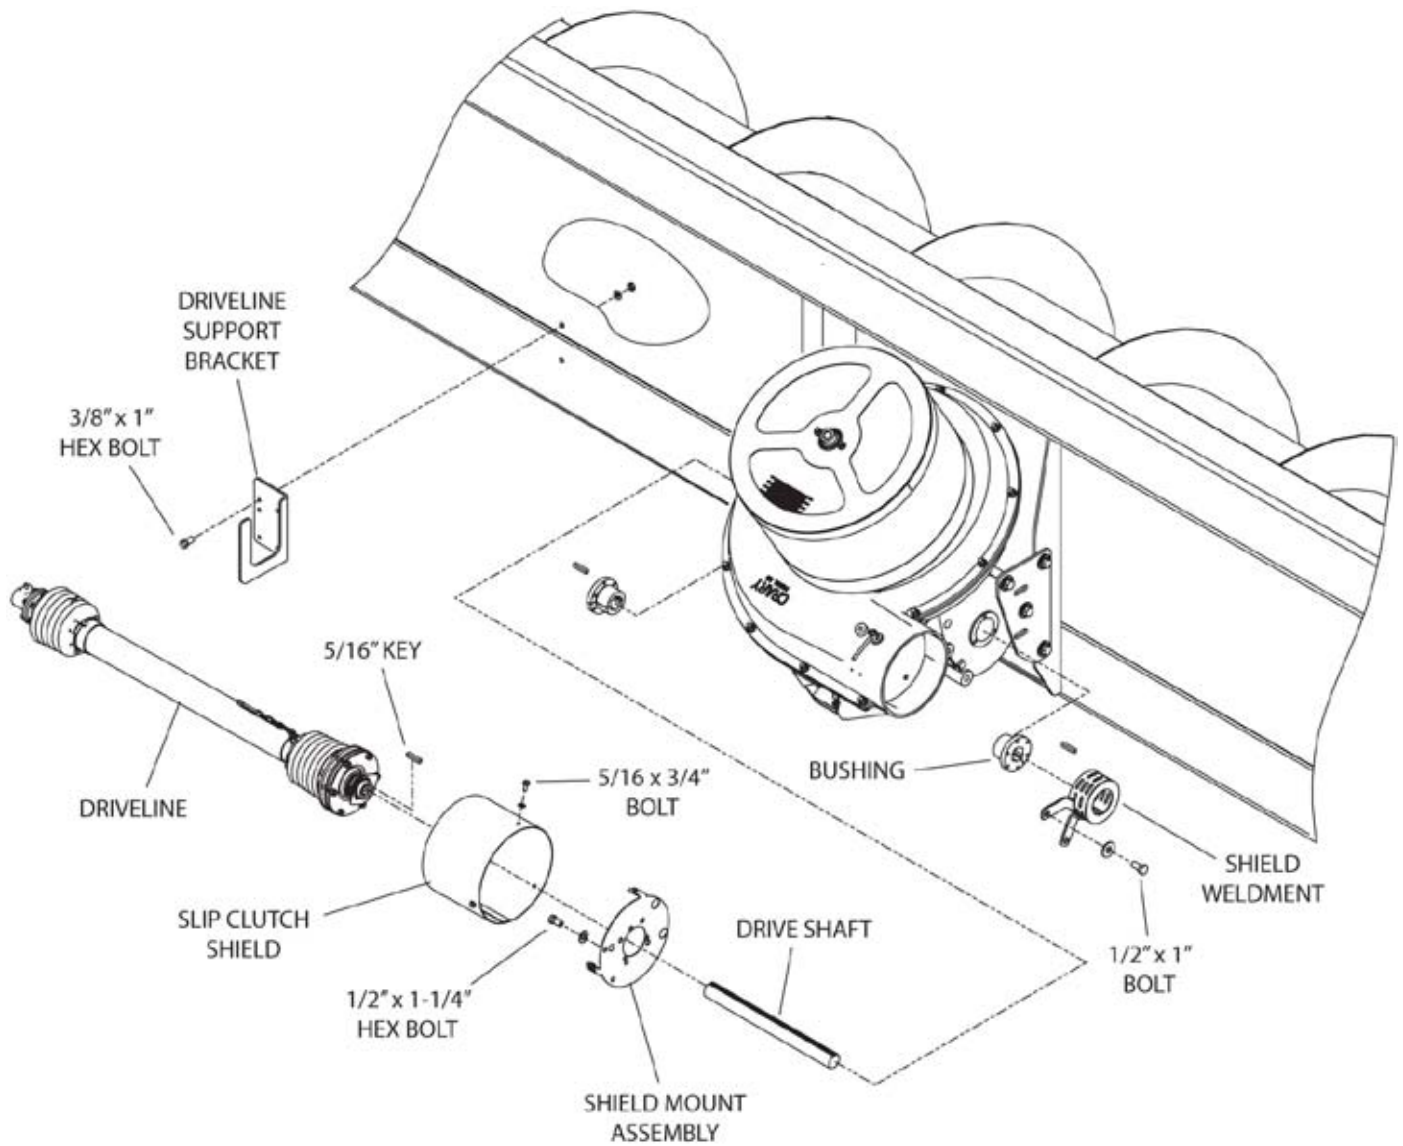

Figure 7, RH drive (18-24 ft. headers)
1. Install a bushing to each side of the gearbox (Figure 7). Make sure the bolts are inserted in the non-threaded bushing holes. The threaded set of holes is used to remove the bushing. Do not tighten the bolts yet.